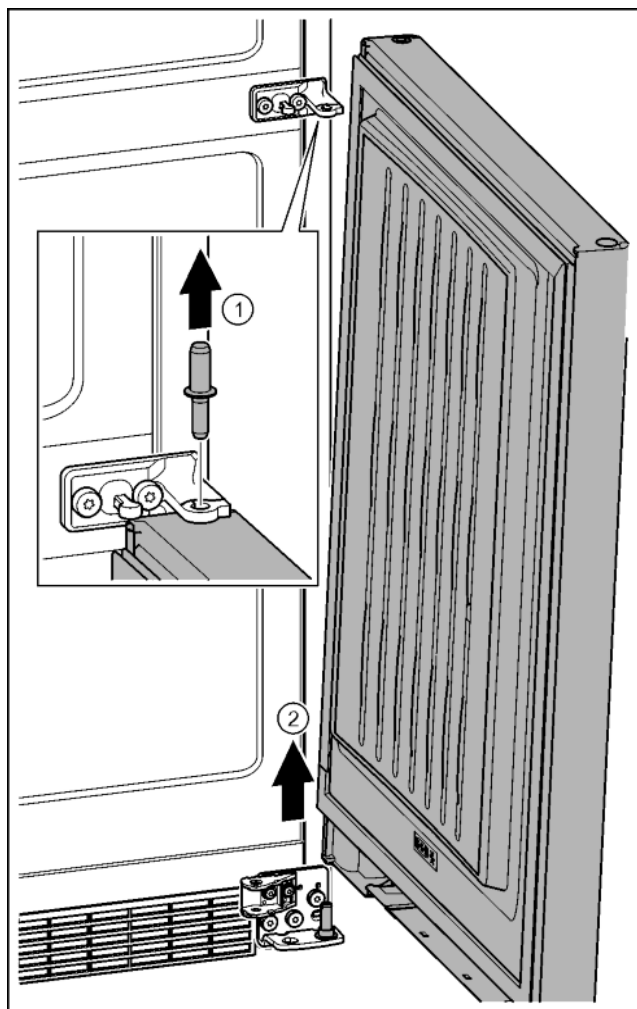

Fig. 21
- ▶ Pull out the bolts towards the top. *Fig. 21 (1)*
- ▶ Swing the door out, pull it upwards and set it aside. *Fig. 21 (2)*